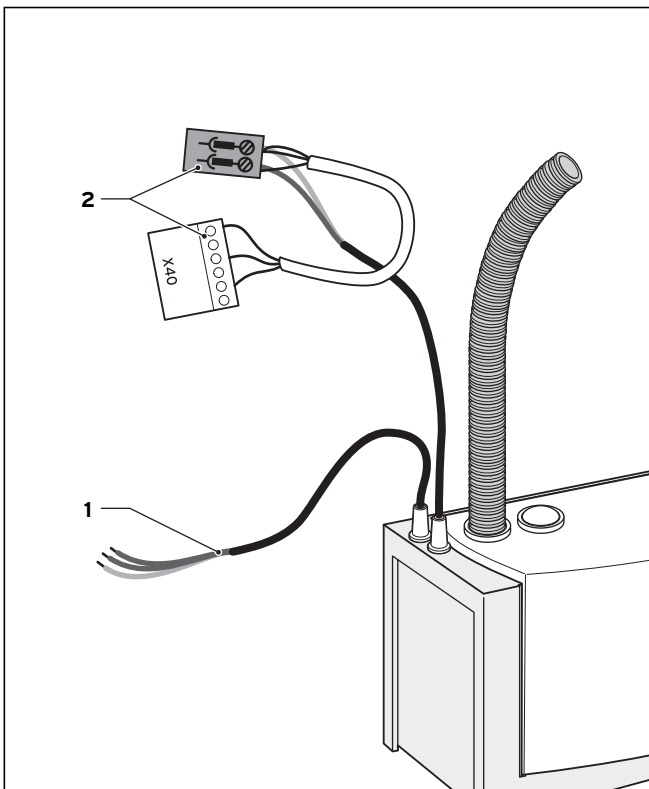

Fig. 6.1 Overview of the electrical connections
- Using a suitable cutting tool, cut off both plugs at the end of the cable (2, Fig. 6.1) and remove the insulation from the ends of the wires.